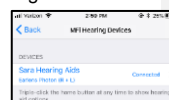

Figure 13
7. When the hearing aids are paired and connected, you will see the word "Connected" in the main MFi Hearing Devices screen (Figure 13).